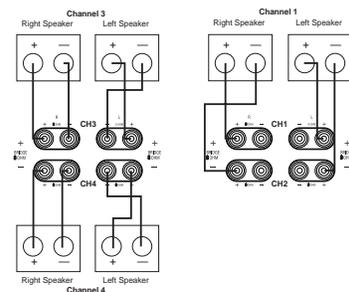

Figure 2
When this option is desired, connect the speaker pair for the high-power channel as shown in Figure 2. Note that markings for
The remaining two speaker pairs for Channel 3 and Channel 4 are connected as shown in Figure 2, using the standard markings.
- Connect the source that is to be fed to the high-power speaker set and the lower-power speaker set to the **Main Amp Input Jacks 11**. Connect the higher-power speaker set as shown in Figure 2 to the speaker terminals marked "Bridge 1". Make certain that the connections for these speakers are made to the proper "+" and "-" terminals with the two vertically oriented binding posts on each side of the channel pair, as opposed to the horizontal orientation of normal speaker connections. DO NOT use the standard channel output and polarity markings for these speaker connections.
- The speaker set that is to receive the lower power signal should be connected to the **Channel 4 Speaker Output Terminals 3** using the standard speaker wiring markings on the rear panel as shown in Figure 2.